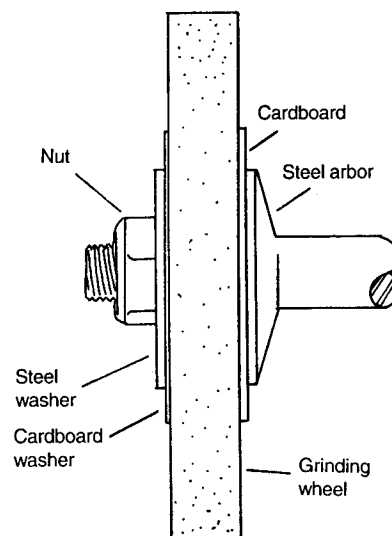

Figure 21
2. To prevent over-tightening and stressing the wheel, make and use a pair of cardboard washers between both sides of the wheel and the steel holding washers, as in Figure 21.